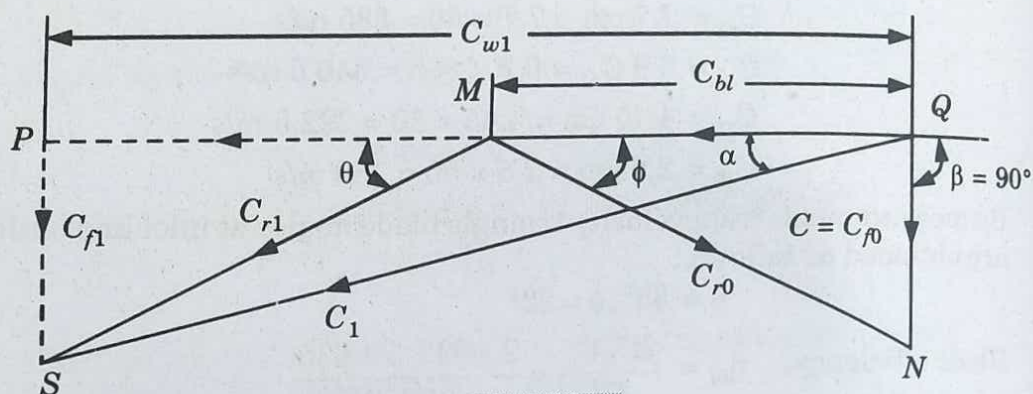

Fig. 4.23.1.
3. Let us draw the velocity diagram across blade as shown in Fig. 4.23.1.